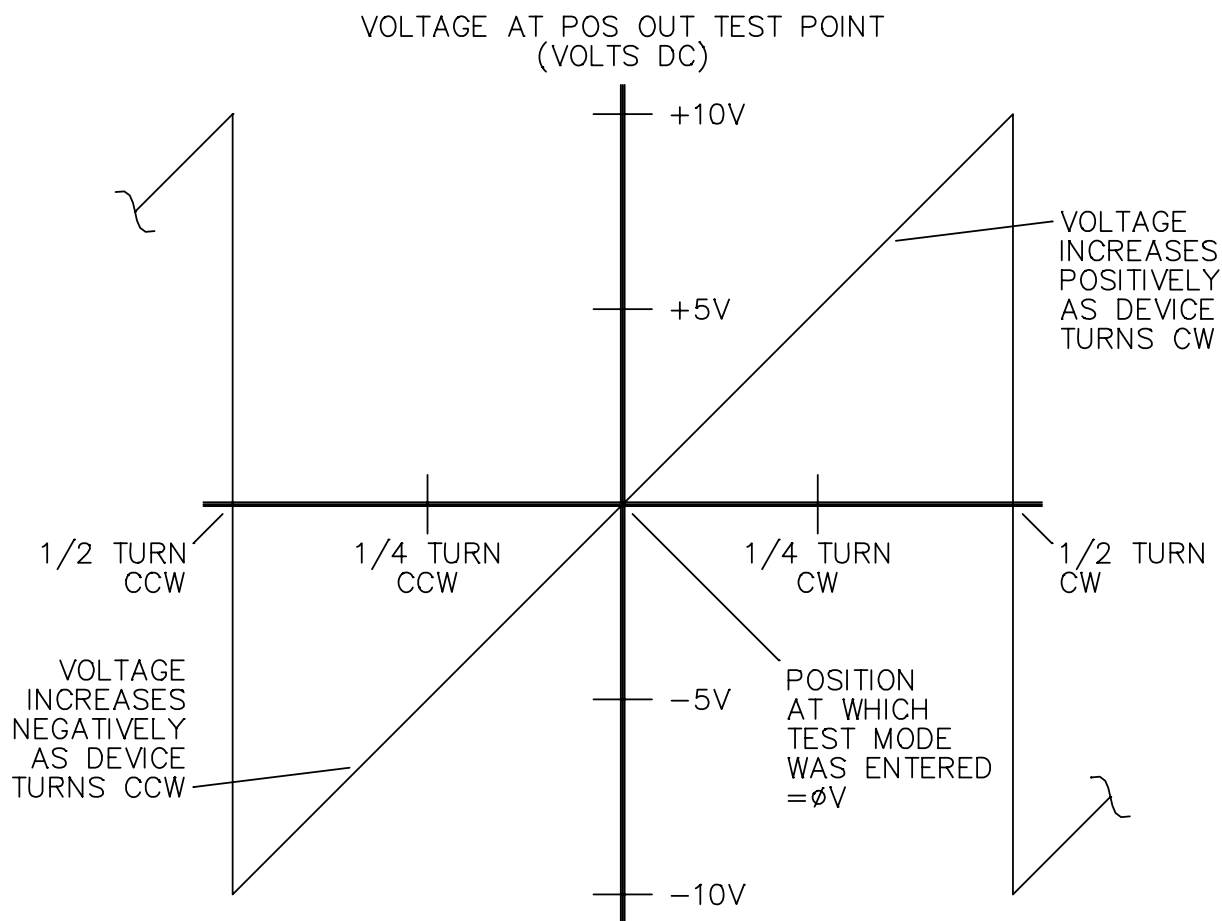

Figure 5-5 Voltage Versus Resolver Displacement Chart
8. Rotate the motor shaft clockwise 1/4 turn while observing the meter. The voltage should smoothly increase (Figure 5-5) to approximately 5V dc.